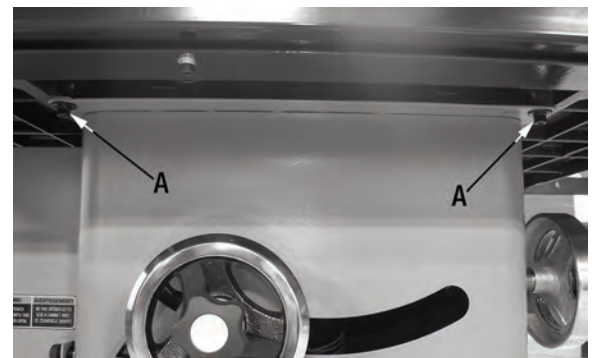

FIGURE 18
If an adjustment is necessary, loosen the four cap screws (A) Fig.18 which fix the table top to the cabinet, make the needed adjustment to the table top position until both measurements are equal or less than 1/64". Retighten the four cap screws (A).